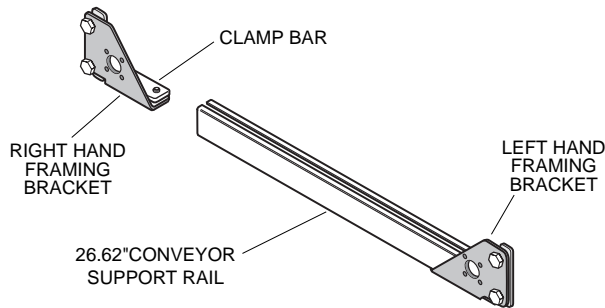

Figure 7.
7. Locate remaining four 26.62" long rails, four left hand framing brackets and four right hand framing brackets. Assemble framing brackets to rails. Finger tighten (Fig. 7).